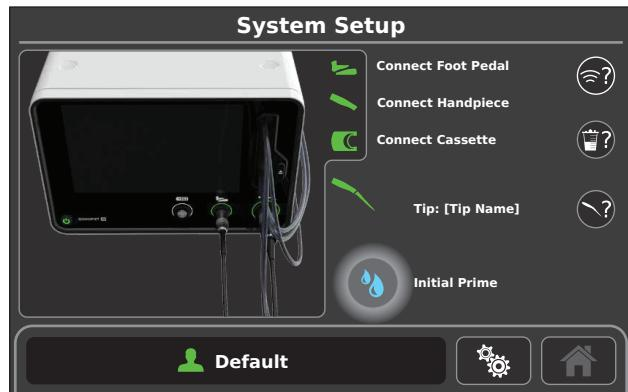

Figure 97 – INITIAL PRIME Button Prompt (pulsing)
- From the SYSTEM SETUP screen, touch the INITIAL PRIME button (Figure 97).